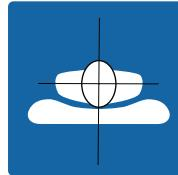

Figure 1-2: Center patient
5. Center the patient on the support surface (Figure 1-2 on page 1-13).